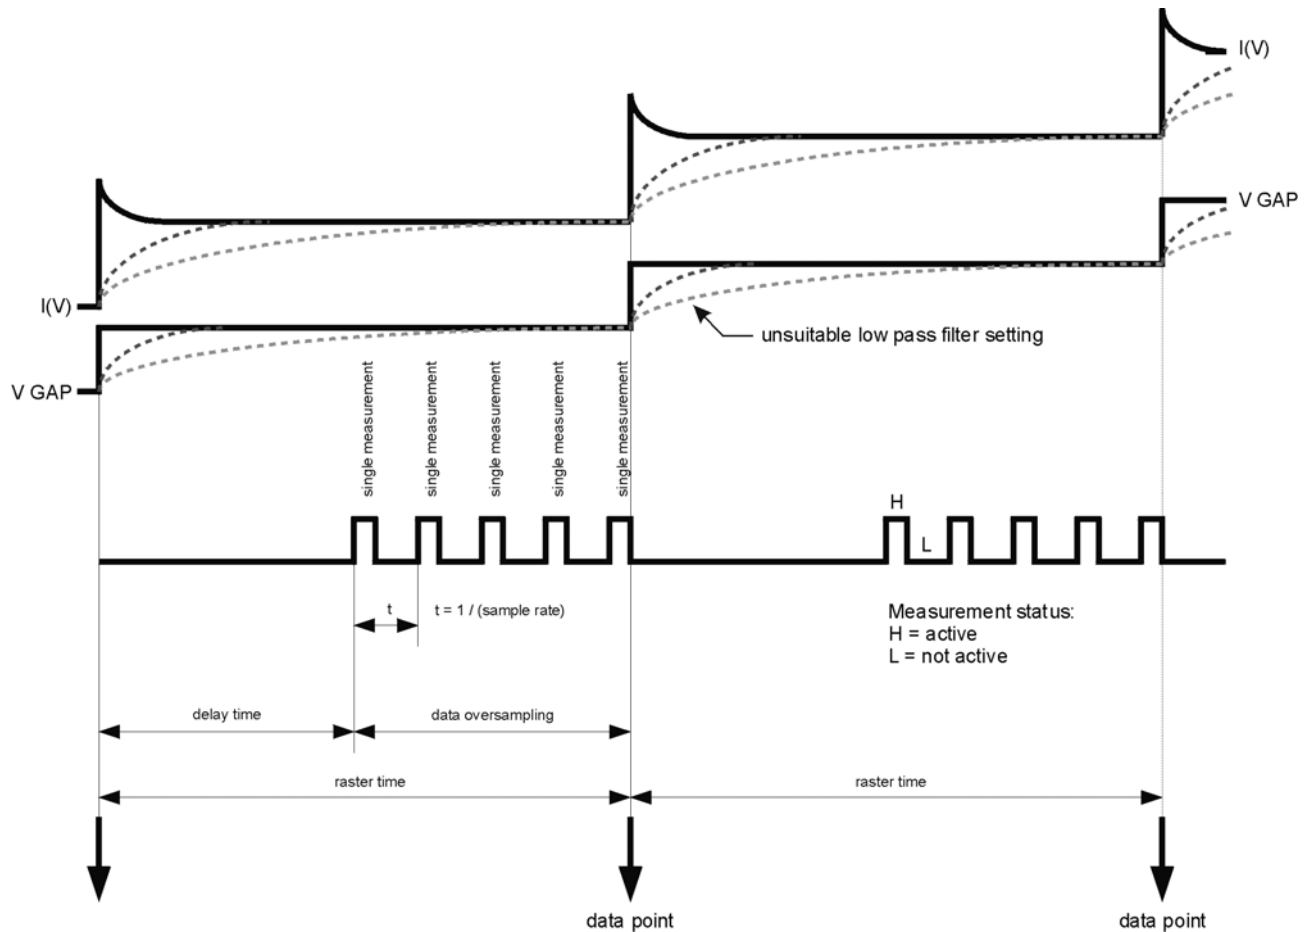

Figure 35. Spectroscopy data acquisition and oversampling.
- After T2 the first data point is acquired after a delay time and with the specified oversampling, see figure 35 on page 43. The **delay time** ensures a stable tunnelling current after the gap voltage change.
- The next data point is taken after one raster time, see also figure 35 on page 43. Consequently, the raster time must be longer than the combination of delay time and data acquisition time, i.e.